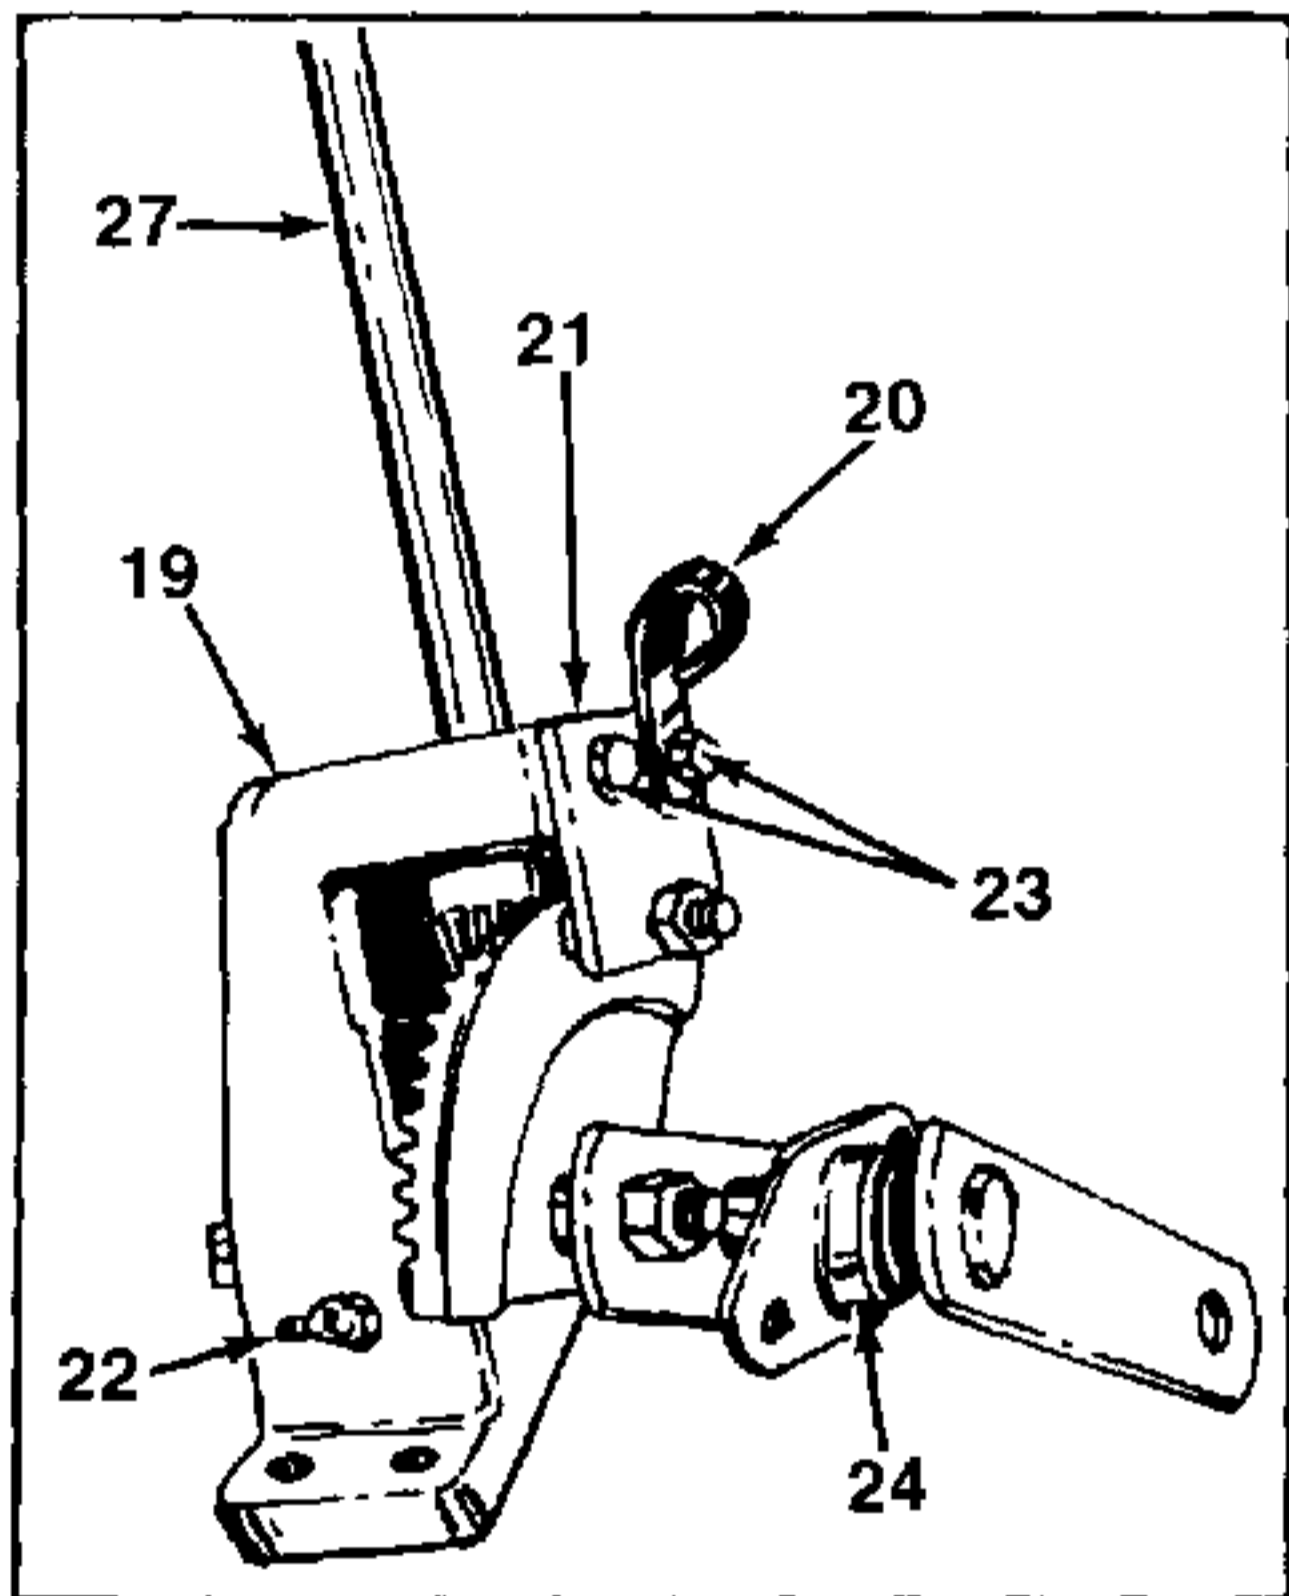

FIGURE 11.
14. Remove the back-up plate (Ref. 21) by removing two hex bolts (Ref. 23). NOTE: Cable clamp (Ref. 20) will come off at this time. Upon reassembly of back-up plate, make certain it is turned upward as shown in figure 11.